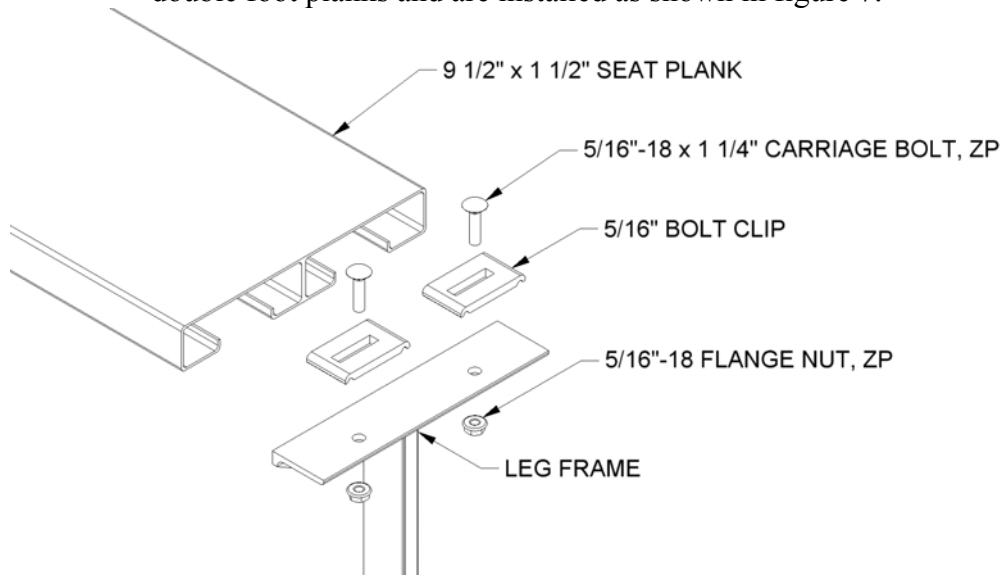
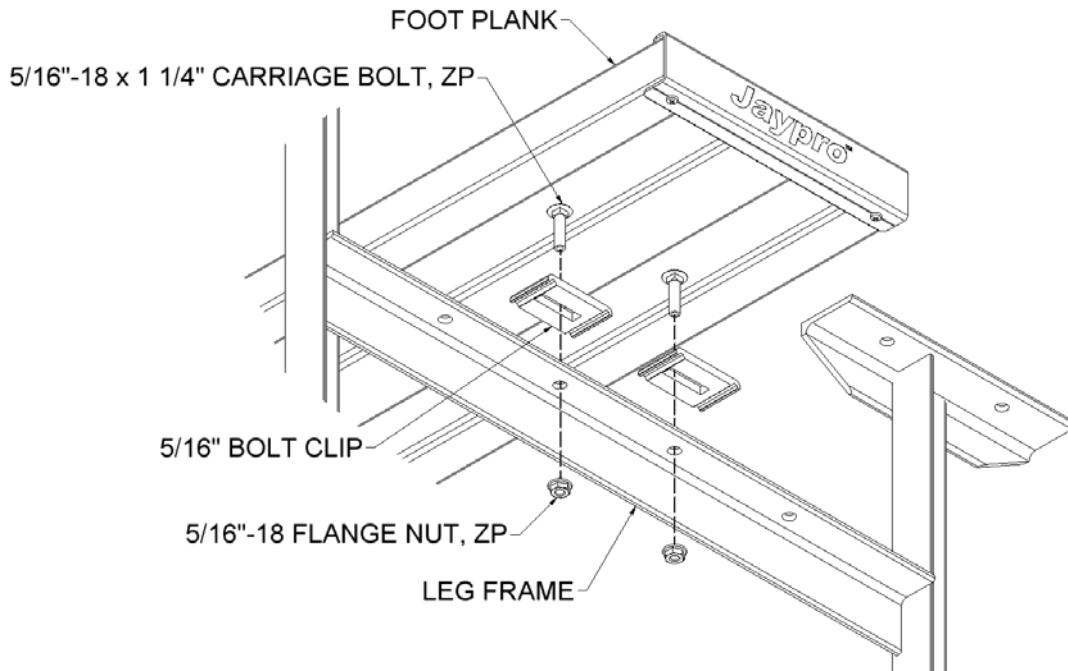
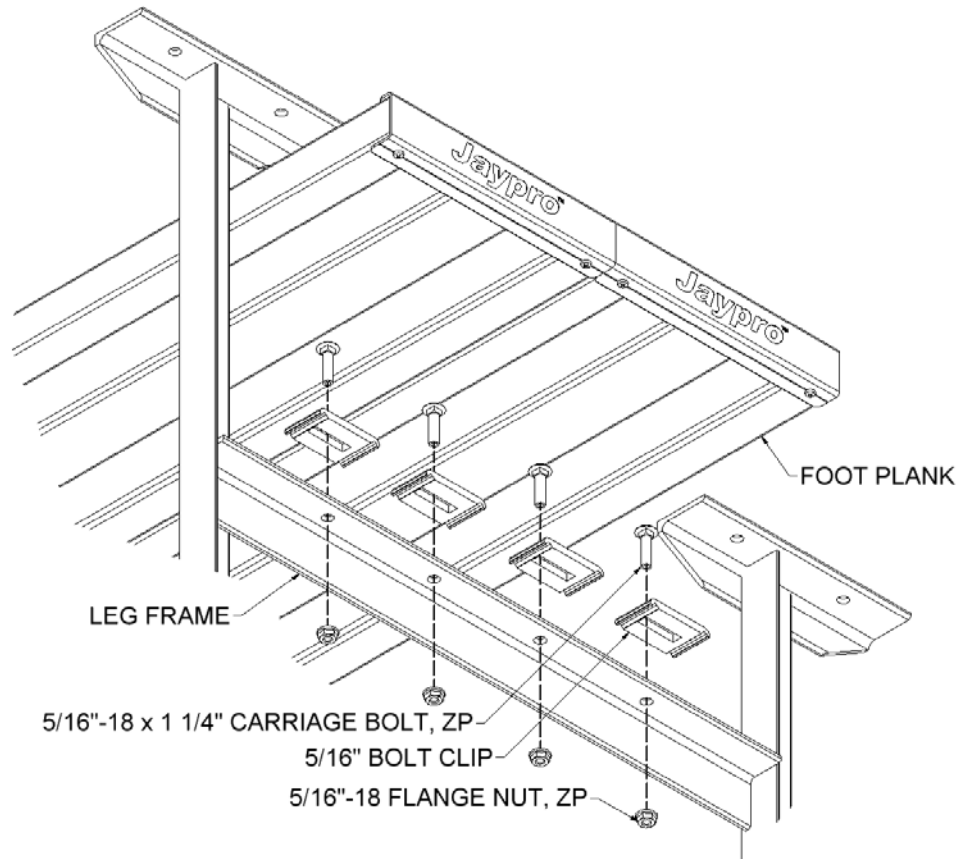

FIGURE: 5
FIGURE: 6
FIGURE: 7
5. Making sure the undercarriage frame is square and plumb, install the seat and foot planks. The seat and foot planks are best installed starting from the front seat and working towards the back. Use the hardware and bolt clip as shown in figure 5. Position planks so they are centered on the frame, with equal amount of overhang on each end. Note that standard bleacher (BLCH-2TRG) have a single foot plank, which is centered on the support frame, see figure 6. Preferred bleacher (BLDP-2TRG) have double foot planks and are installed as shown in figure 7.